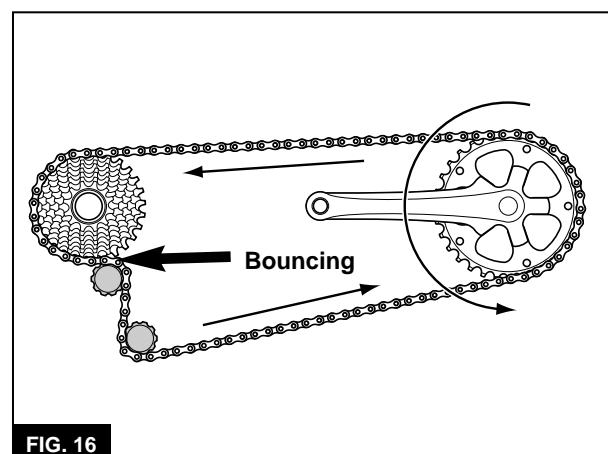

FIG. 16
- c. Back-pedal, and check for bouncing at the guide pulley (**Figure 16**). The B-screw is too loose if bouncing is noticed.